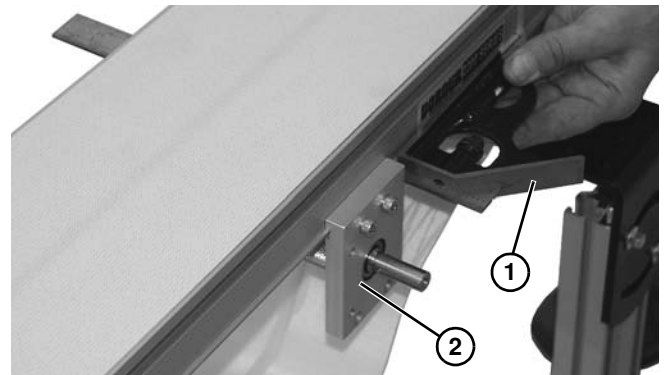

Figure 95
10. Be certain to use a square (Figure 95, item 1) across mounting blocks (Figure 95, item 2), so blocks are aligned to one another, before tightening hardware.